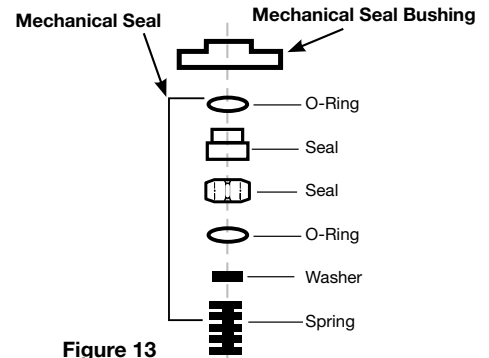

Figure 13
2. The mechanical seal will be exposed in the lower portion of the mechanical seal bushing (see Figure 13).